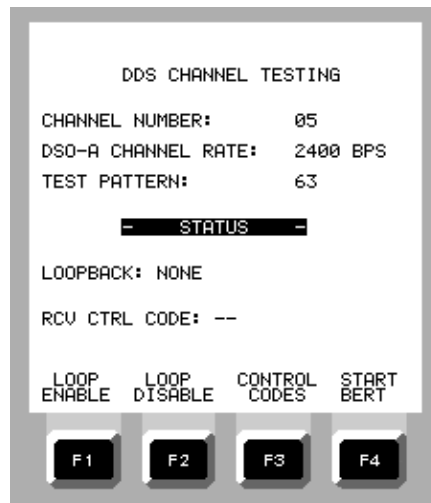

Figure 2-31. DDS CHANNEL TESTING Screen
- i. DDS CHANNEL TESTING (Option 11) - Allows testing of 56K and 64K DDS circuits (Figure 2-31).